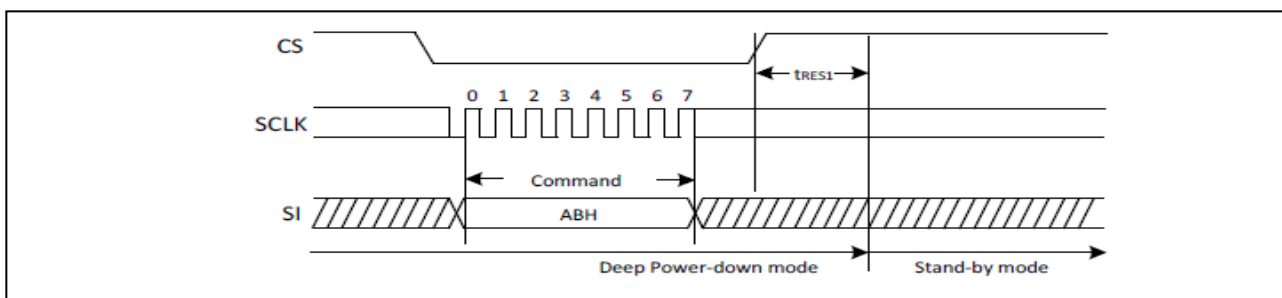

Figure24. Release Power-Down Sequence Diagram
The Release from Power-Down and Read/Device ID command is a multi-purpose command. It can be used to release the device from the Power-Down state or obtain the devices electronic identification (ID) number. To release the device from the Power-Down state, the command is issued by driving the CS# pin low, shifting the instruction code “ABH” and driving CS# high as shown in Figure24. Release from Power-Down will take the time duration of tRES1 (See AC Characteristics) before the device will resume normal operation and other command are accepted. The CS# pin must remain high during the tRES1 time duration.